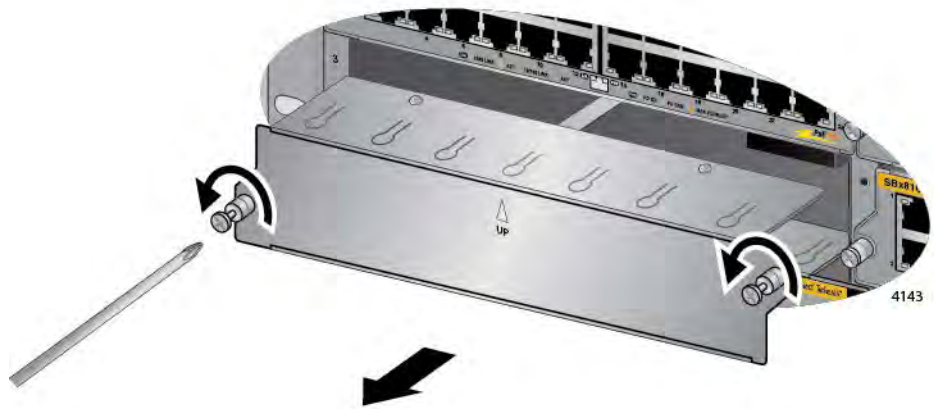

Figure 91. Removing a Blank Slot Cover
2. If the selected slot for the line card is covered with a blank slot cover, use a #2 Phillips-head screwdriver to loosen the two captive screws on the cover and remove it from the chassis. Refer to Figure 91.